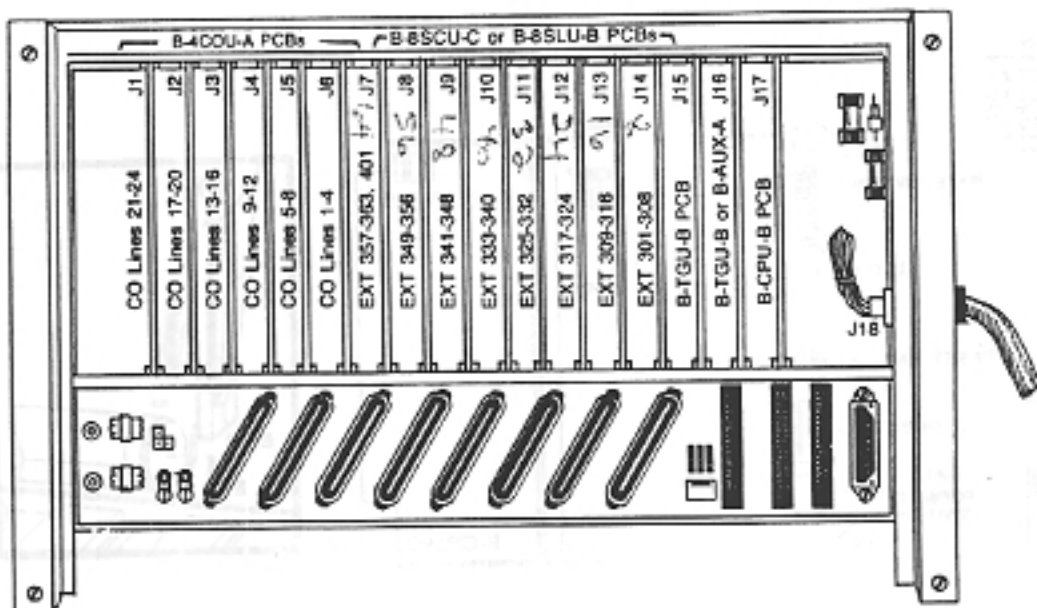

Figure 5-9 PCB LOCATION, KSU, TCX-128
**6.05** The PCBs are keyed to fit only in their proper slot ( Figures 5-9 and 5-10 ). When inserting the PCBs, the connector edge goes into the slot with the component side of the PCB to the installer's right.